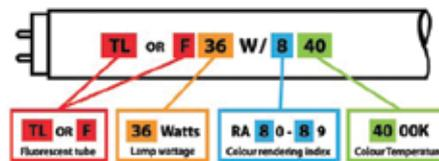

Fig. 4 Fluorescent tube lamp codes
- The last three digits of the reference number on fluorescent lamps represent a method of specifying a lamp's colour rendering and colour temperature. For example (Figure 4), for a 3-digit reference of 840, the first digit (8) refers to a colour rendering of 80–89 and the second two digits (40) refer to the colour temperature, where 40 = 4,000K.